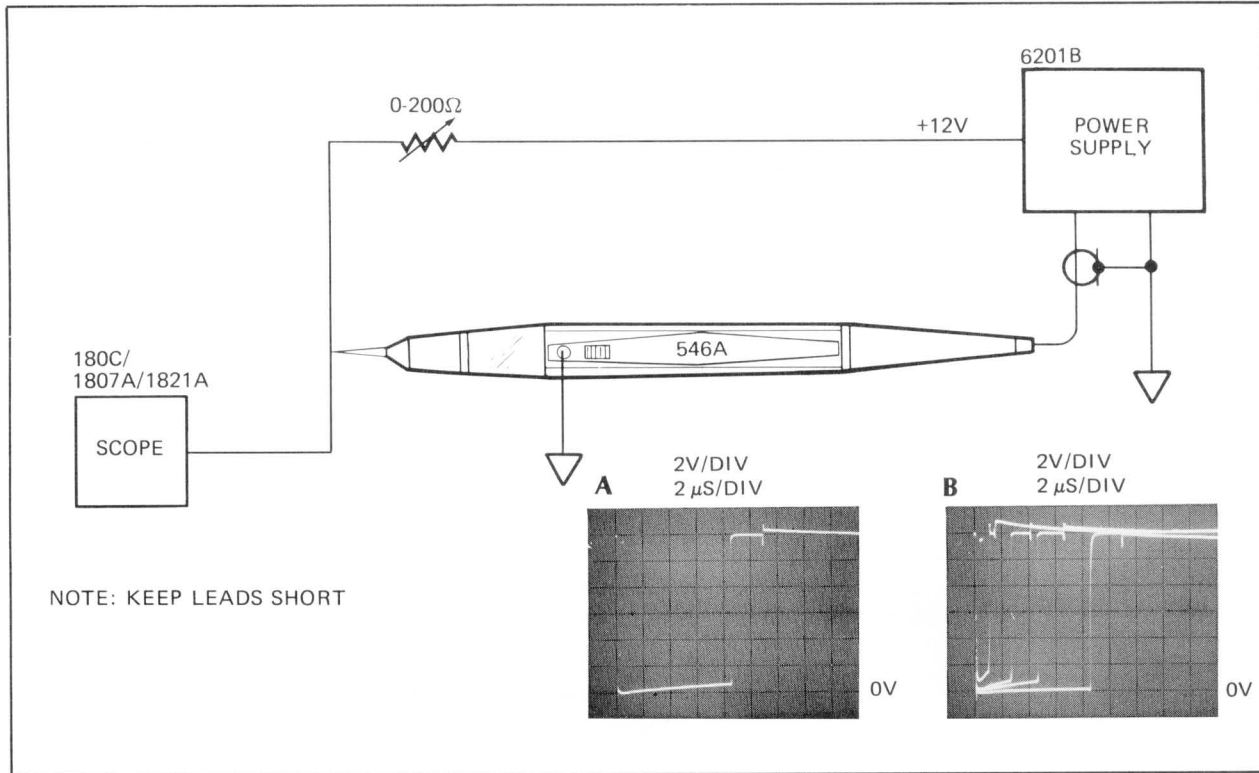

Figure 12. "0" Output Pulse at 12V Test Setup
Connect the equipment as shown in *Figure 12* and proceed as follows:
- b. Press Pulser pushbutton and latch while observing oscilloscope for waveform A, *Figure 12*.